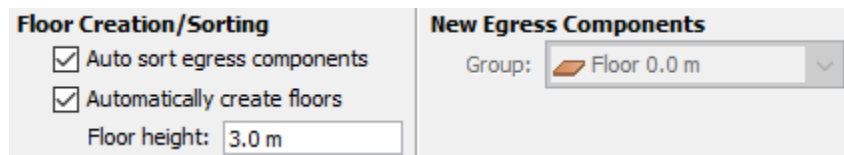

Figure 16. Floor Creation Panel
When nothing is selected in the model, the **Floor Creation** panel is shown, as in Figure 16. This panel controls the automatic creation of floors and automatic sorting of new objects into floors.
2. Clear the selection so that the **Floor Creation** panel is visible (Figure 16).